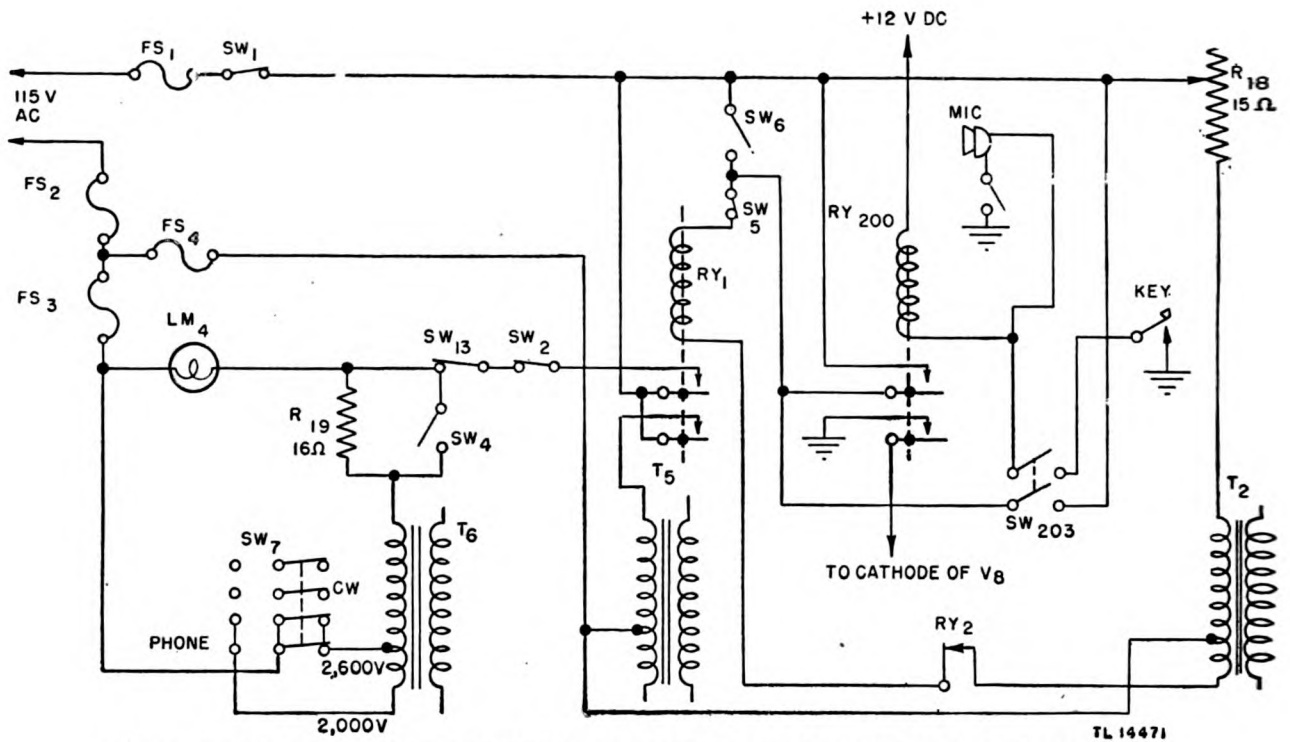

Figure 68. HIGH VOLTAGE PROTECT and PLATE POWER switches—functional diagram.
c. **HIGH VOLTAGE PROTECT SWITCH SW_4** (fig. 68). **HIGH VOLTAGE PROTECT** switch SW_4 is located on the front panel of the transmitter. When set
d. PLATE POWER SWITCH SW_6 (fig. 68). PLATE POWER switch SW_6 is located on the front panel